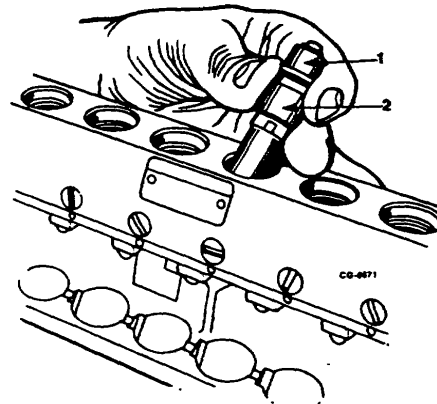

Figure 28. Removing Barrel and Delivery Valve
16. Remove shims, springs, gaskets and delivery valve assemblies by lifting up on barrels from inside of pump housing (Figure 28). As soon as barrels are removed, keep barrels and plungers together. While these parts are mated at assembly, they have no mating marks. Be sure to keep parts in order.